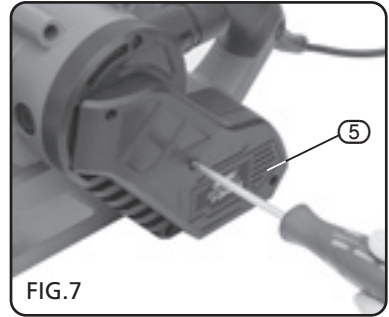

FIG.7
11.1 DRIVE BELT REPLACEMENT – FIGS. 7 – 8
- To access the drive belt, remove the protective cover (5) which is secured with three cross slot screws. Slide the toothed belt (5.1) off the small drive pulley first. Fit the new belt on the large pulley first and gently work the belt over the small pulley. Never operate the sander with the cover removed.